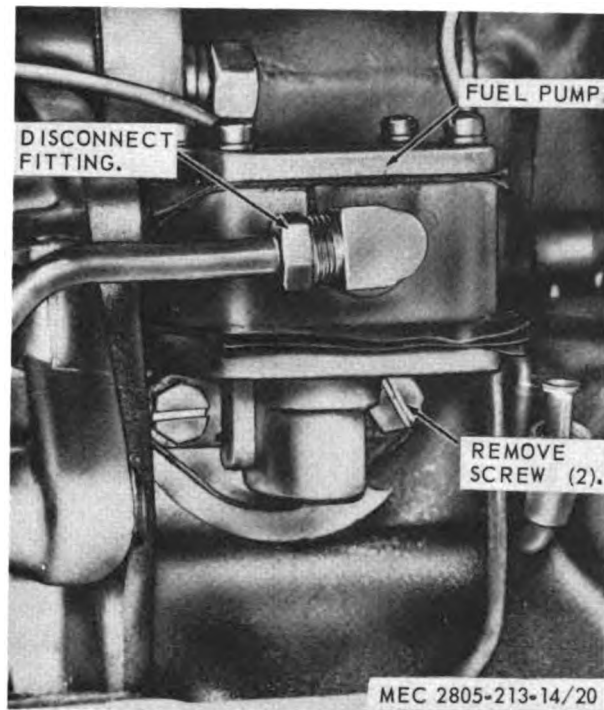

Figure 3-5. Fuel pump, removal and installation.
(1) Remove the carburetor (para 3-19).
(2) Remove the fan assembly (para 3-36).
(3) Remove the left front shroud (para 3-38).
(4) Refer to figure 3-5 and remove the fuel pump.
(1) Refer to figure 3-5 and install the fuel pump.
(2) Install the left front shroud (para 3-38).
(3) Install the fan assembly (para 3-36).
(4) Install the carburetor (para 3-19).